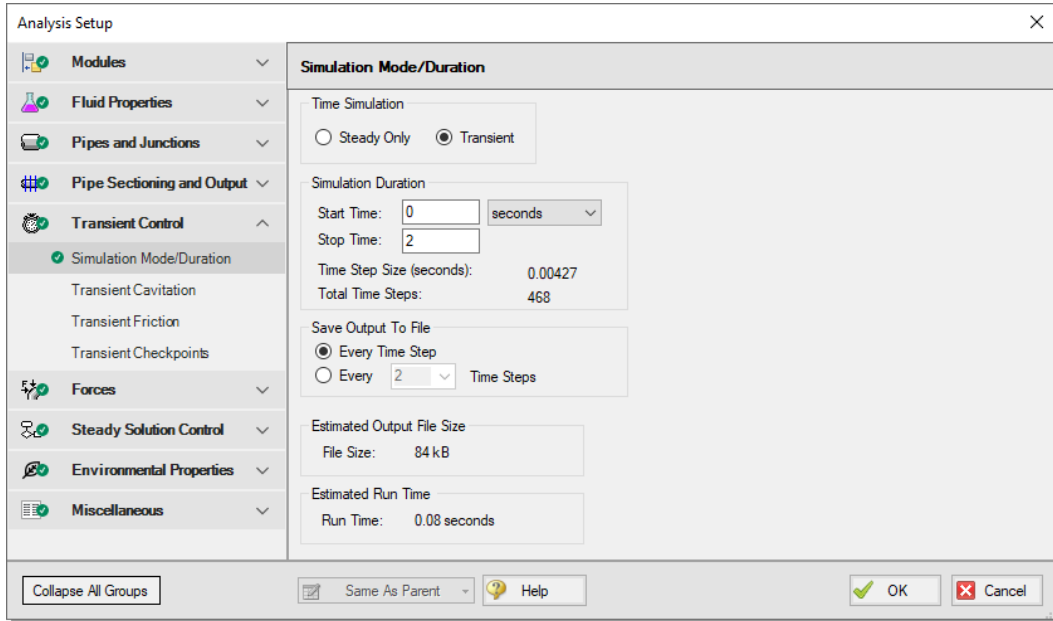

Figure 2.20 The Simulation Mode/Duration panel offers features to specify the time span for the transient
- **Go to the Simulation Mode/Duration panel in Analysis Setup.** Enter 2 seconds in the Stop Time field, as shown in Figure 2.20.